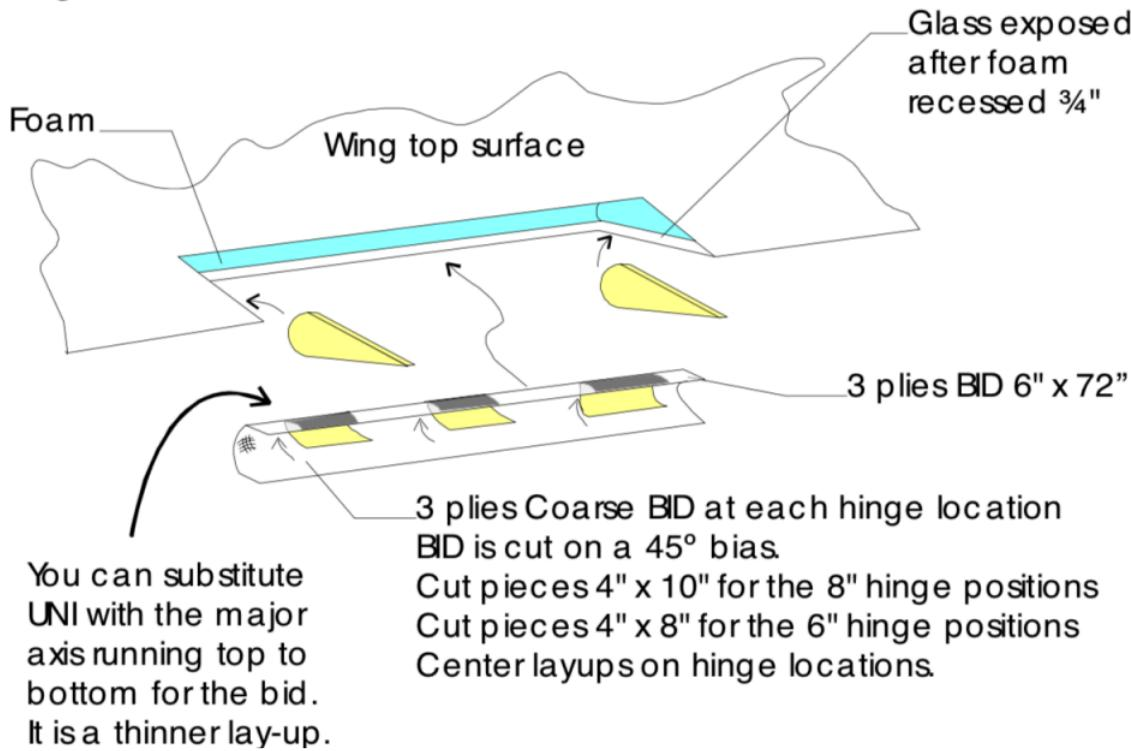

Figure 2-37. Aileron Well Reinforcement
Cut (6) pieces of $4" \times 10"$ coarse BID, and 12 pieces of $4" \times 8"$ coarse BID, all on a 45 degree bias. Apply three plies of the $4" \times 10"$ BID at each of the 8" hinge locations, and three plies of the $4" \times 8"$ BID at the 6" hinge locations. These lay-ups will serve as reinforcements, and are shown in Figures 2-37 and 2-38.